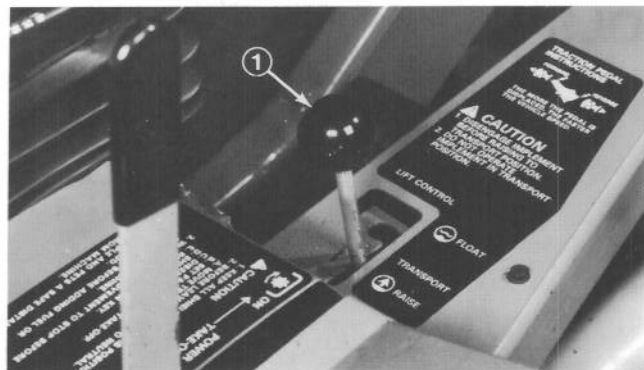

Figure 26
Lift Lever (Fig. 26)—The hydraulic lift lever has three positions: FLOAT, TRANSPORT, and RAISE. To lower implement to the ground, move lift lever forward into notch, which is the FLOAT position. The FLOAT position is used for operation and also when machine is not in operation. To raise
1. Ensure parking brake is set, PTO lever is in OFF position (Fig. 27), and lift lever is in TRANSPORT or FLOAT position (Fig. 26). Remove foot from traction pedal and insure it is in neutral.